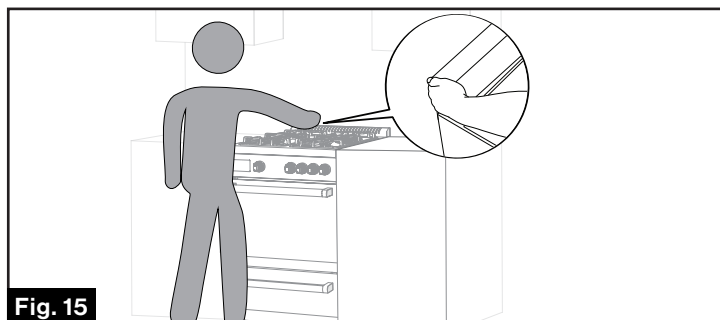

Fig. 15
- Method 1:** Place your feet in the front of the drawer and grab the lower left side of the vent as shown. Slowly attempt to tilt the range forward. If the back of the range lifts more than $\frac{1}{2}$ " off the floor and there is no resistance, stop lifting and set the range back on the floor. The anti tip bracket and range foot are not engaged correctly. (Fig. 15)